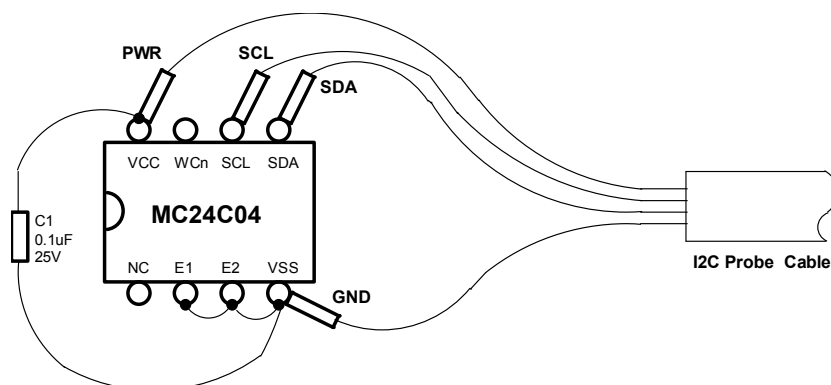

Figure 2. Connections to M24C04 I2C target test device
For this exercise, a target slave device or I2C network with at least one slave device is needed. Device power (or network) can be supplied by either the I2C target or JI-300 Adapter. The following steps are for use with a M24C04 I2C target device. (See Figure 2)
4. Connect the four I2C bus probes (SDA, SCL, PWR, and GND) to the I2C target device. (See Figure 2)